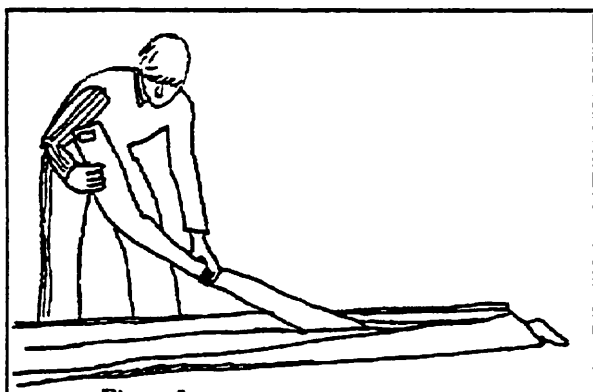

Figure 5
2) Undo the zipper, remove the battens and the control bar cover bag. (Figure 5 & 6)